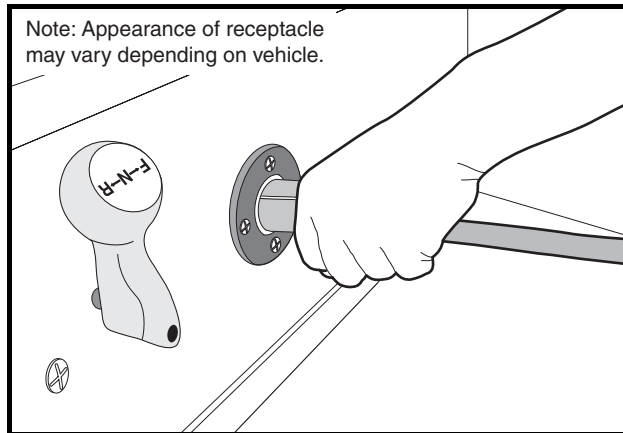
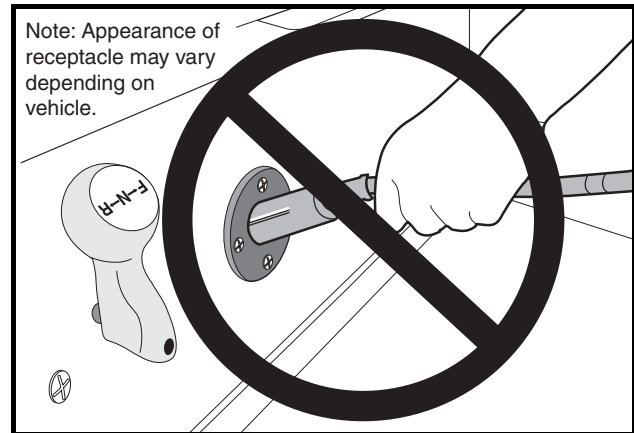

Figure 6-7 Charger Receptacle
Figure 6-8 Incorrect DC Plug Removal
- The battery charger DC plug must be pulled slowly from the receptacle (Figure 6-7, Page 6-9). Jerking or pulling the DC cord out quickly could cause arcing that could damage the plug and receptacle and could cause batteries to explode (Figure 6-8, Page 6-9).
- **The charger plug must be pulled slowly from the receptacle (Figure 6-7, Page 6-9). Jerking or pulling the DC cord out quickly could cause arcing and burning that could damage the plug and receptacle and could cause batteries to explode (Figure 6-8, Page 6-9).**
- Do not rock or bend the plug. To connect the charger plug to the vehicle receptacle, grasp the plug handle and push the plug straight into the receptacle (Figure 6-7, Page 6-9).
- Do not pull on the DC cord (Figure 6-8, Page 6-9). Do not twist, rock or bend the plug. To disconnect the charger plug from the vehicle receptacle, grasp the plug by the handle and pull the plug straight out of the receptacle.
2. Connect the charger DC plug to the vehicle charger receptacle located on the seat support panel (**Figure 6-7, Page 6-9**). The charger will activate automatically within 2 to 15 seconds after the DC plug is connected. **See following WARNING.**
- Do not rock or bend the DC plug. To connect the charger plug to the vehicle receptacle, grasp the plug handle and push the plug straight into the receptacle (**Figure 6-7, Page 6-9**).